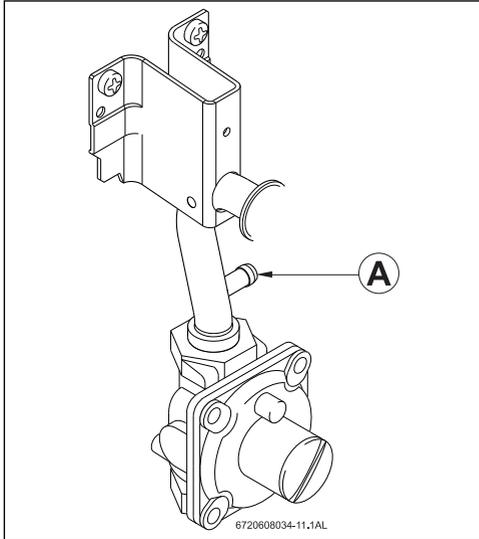

Fig. 14 Gas pressure measuring point
The gas supply piping should be sized according to the applicable code for a maximum draw of 117,000 BTUH. Measure the length of gas supply line and use the tables in Fig. 14 or the gas line manufacturer's sizing tables to determine the pipe diameter necessary to accommodate the BTU demand of the unit. If there are more gas appliances drawing on the same line, size the gas line according to the total maximum amount of BTU draw for all appliances.
- ▶ Remove front cover and locate inlet gas pressure measuring point on the right side, see Fig. 14.